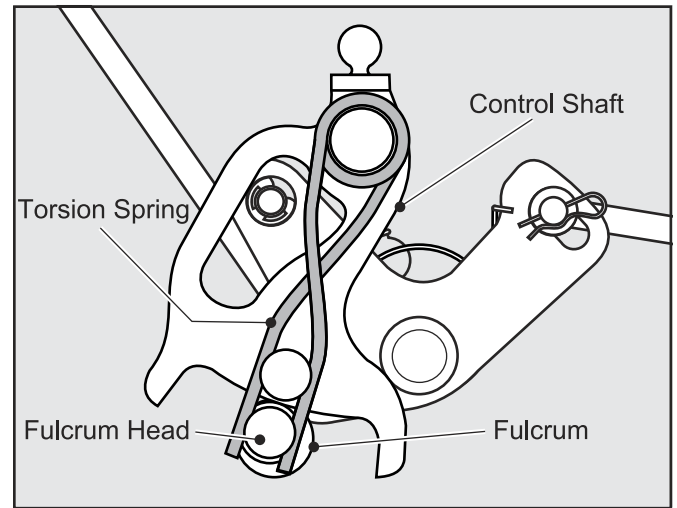

Fig. 14, Fulcrum - Control Shaft Assembly
3. Place the head of the Fulcrum between the legs of the Torsion Spring. (Fig. 14)